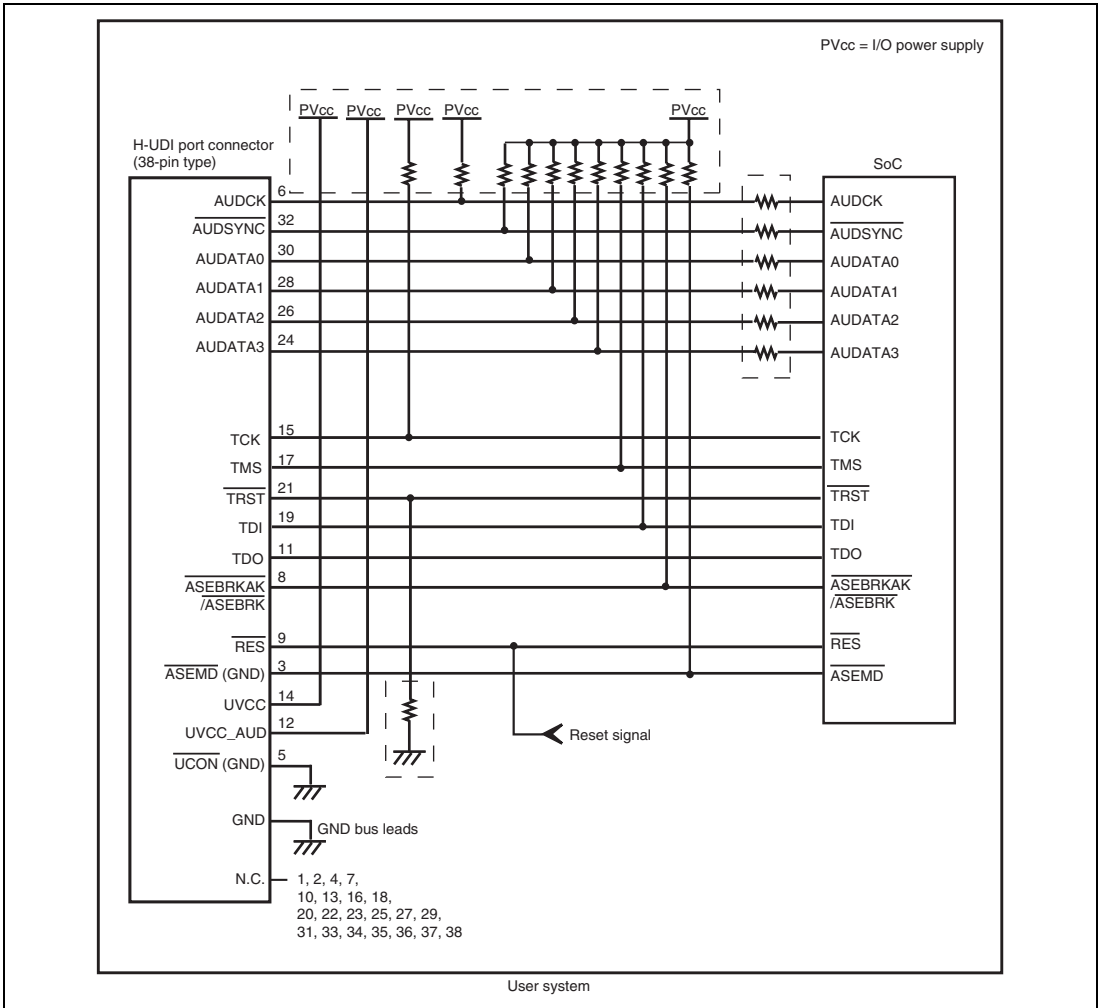

Figure 1.7 Recommended Circuit for Connection between the H-UDI Port Connector and MCU when the Emulator is in Use (38-Pin Type)
Figure 1.7 shows a recommended circuit for connection between the H-UDI and AUD port connectors (38 pins) and the MCU when the emulator is in use.
(1) When the emulator is used: ASEMD# = 0
(2) When the emulator is not used: ASEMD# = 1
Figure 1.7 shows an example of circuits that allow the ASEMD# pin to be GND (0) whenever the emulator is connected by using the user system interface cable.
When the circuit is connected as shown in figure 1.7, the switches of the emulator are set as SW2 = 1 and SW3 = 1. For details, refer to section 3.8, Setting the DIP Switches, in the SuperH™ Family E10A-USB Emulator User's Manual.